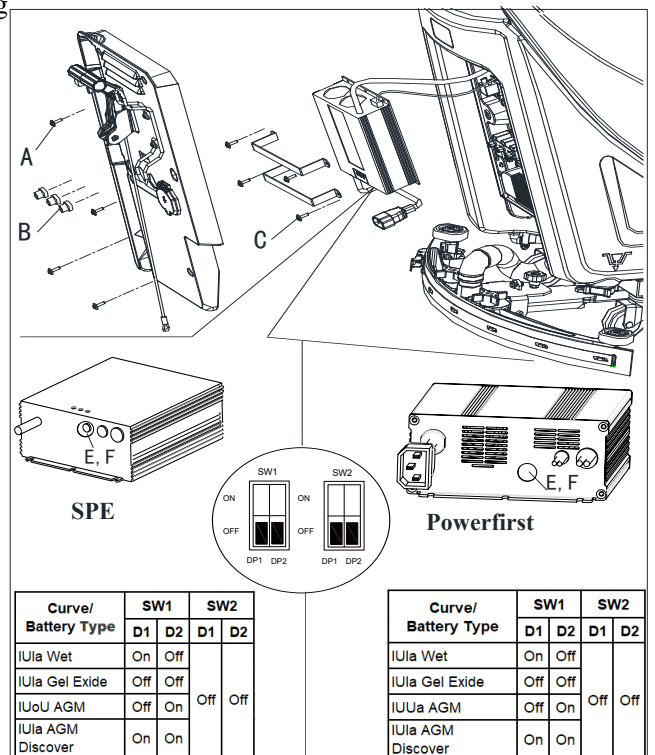

Figure 4.1
7. Remove the screws (A,B,C,Figure4.1)
8. Remove the plastic plug covering the DIP switch access hole (F) and find the SW1(E, Figure4.1).
9. Set the switches as the table of Figure4.1.
10. Put the plastic plug back and install the screws (A,B,C,Figure4.1) after setting completes.